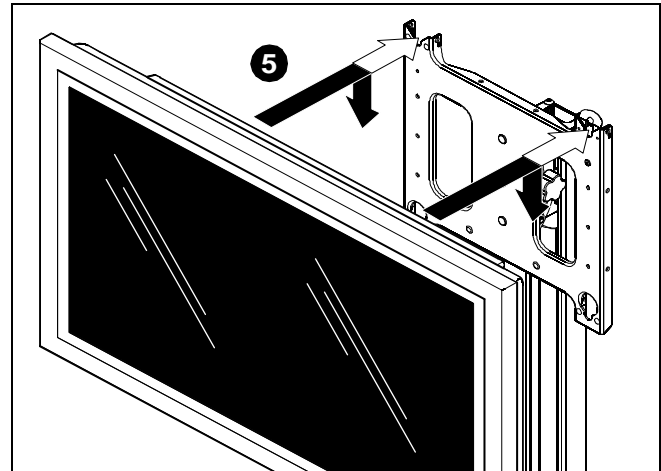

Figure 10
4. While supporting both sides of display, align four mounting buttons on display or interface bracket with four mounting holes in head assembly. (See Figures 10 and 11)
5. Lower display into place listening for audible "click" to ensure recessed area of mounting buttons are properly seated in lower area of mounting holes. (See Figures 10 and 11)